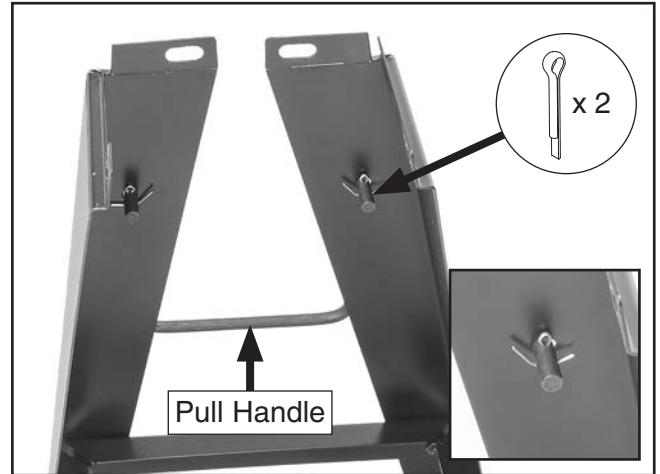

Figure 15. Cotter pins installed in handle.
- On opposite side of stand, insert pull handle into holes shown in **Figure 15** and secure with (2) cotter pins.